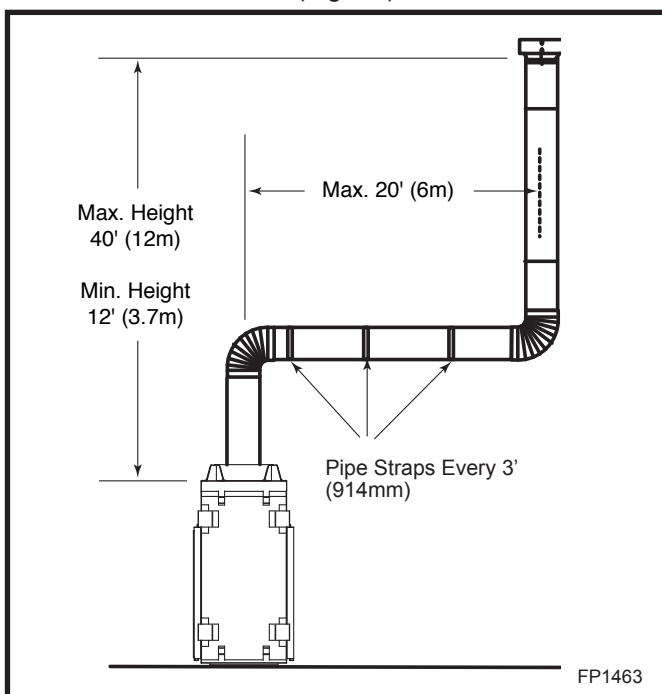

Fig. 33 Support straps for horizontal runs.
- Vertical installations up to 40' (12 m) in height. Up to a 20' (6 m) horizontal vent run can be installed within the vent system using a maximum of three (3) 90° elbows. (Fig. 33)
- A 2' (610 mm) vertical section must be installed before any offset. A maximum of 20' (6.1 m) horizontal and three (3) 90° elbows may be installed with a minimum of 12' (3.66 m) vertical section above the flue collar of the unit. (Fig. 33)